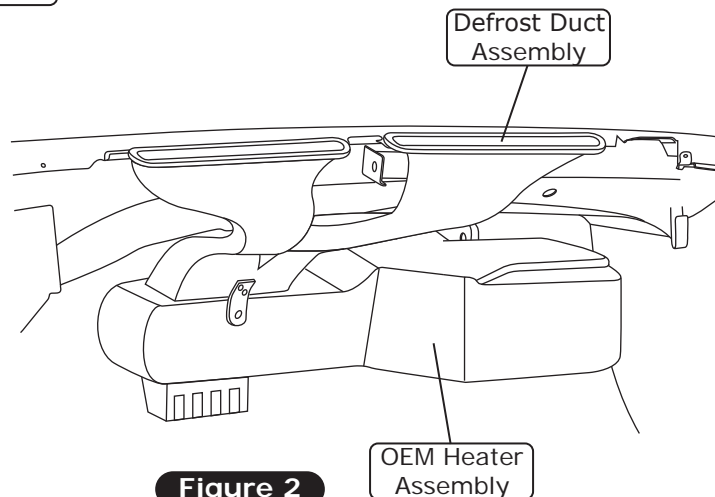

Figure 2
7. Remove the OEM heater assembly (discard) (See Figure 2, below).